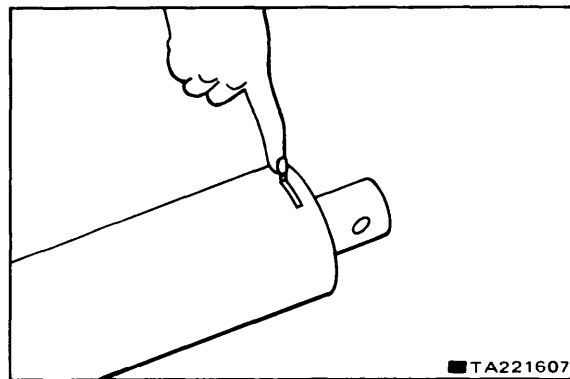

FIGURE 9-14. LOCATION OF SLOT FOR RETAINING RING.
- a. Using a punch or piece of key stock, push the retaining ring around the slot so that it can be forced out and gripped (see figure 9-14).